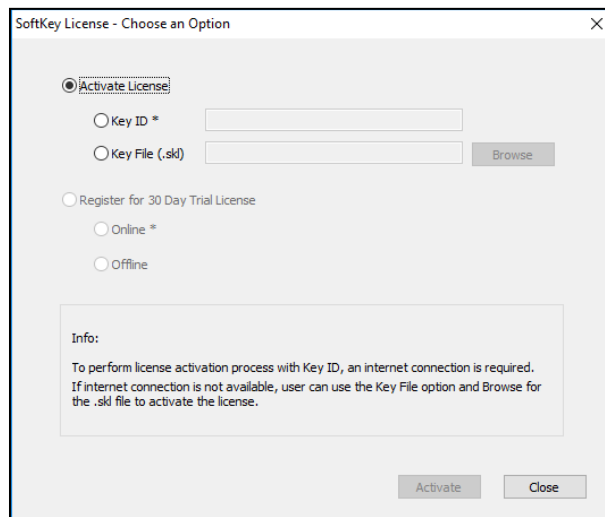

Figure 6. Activate License
- b. From the **Choose an Option** page (Figure 6), select **Key File (.skf)**.